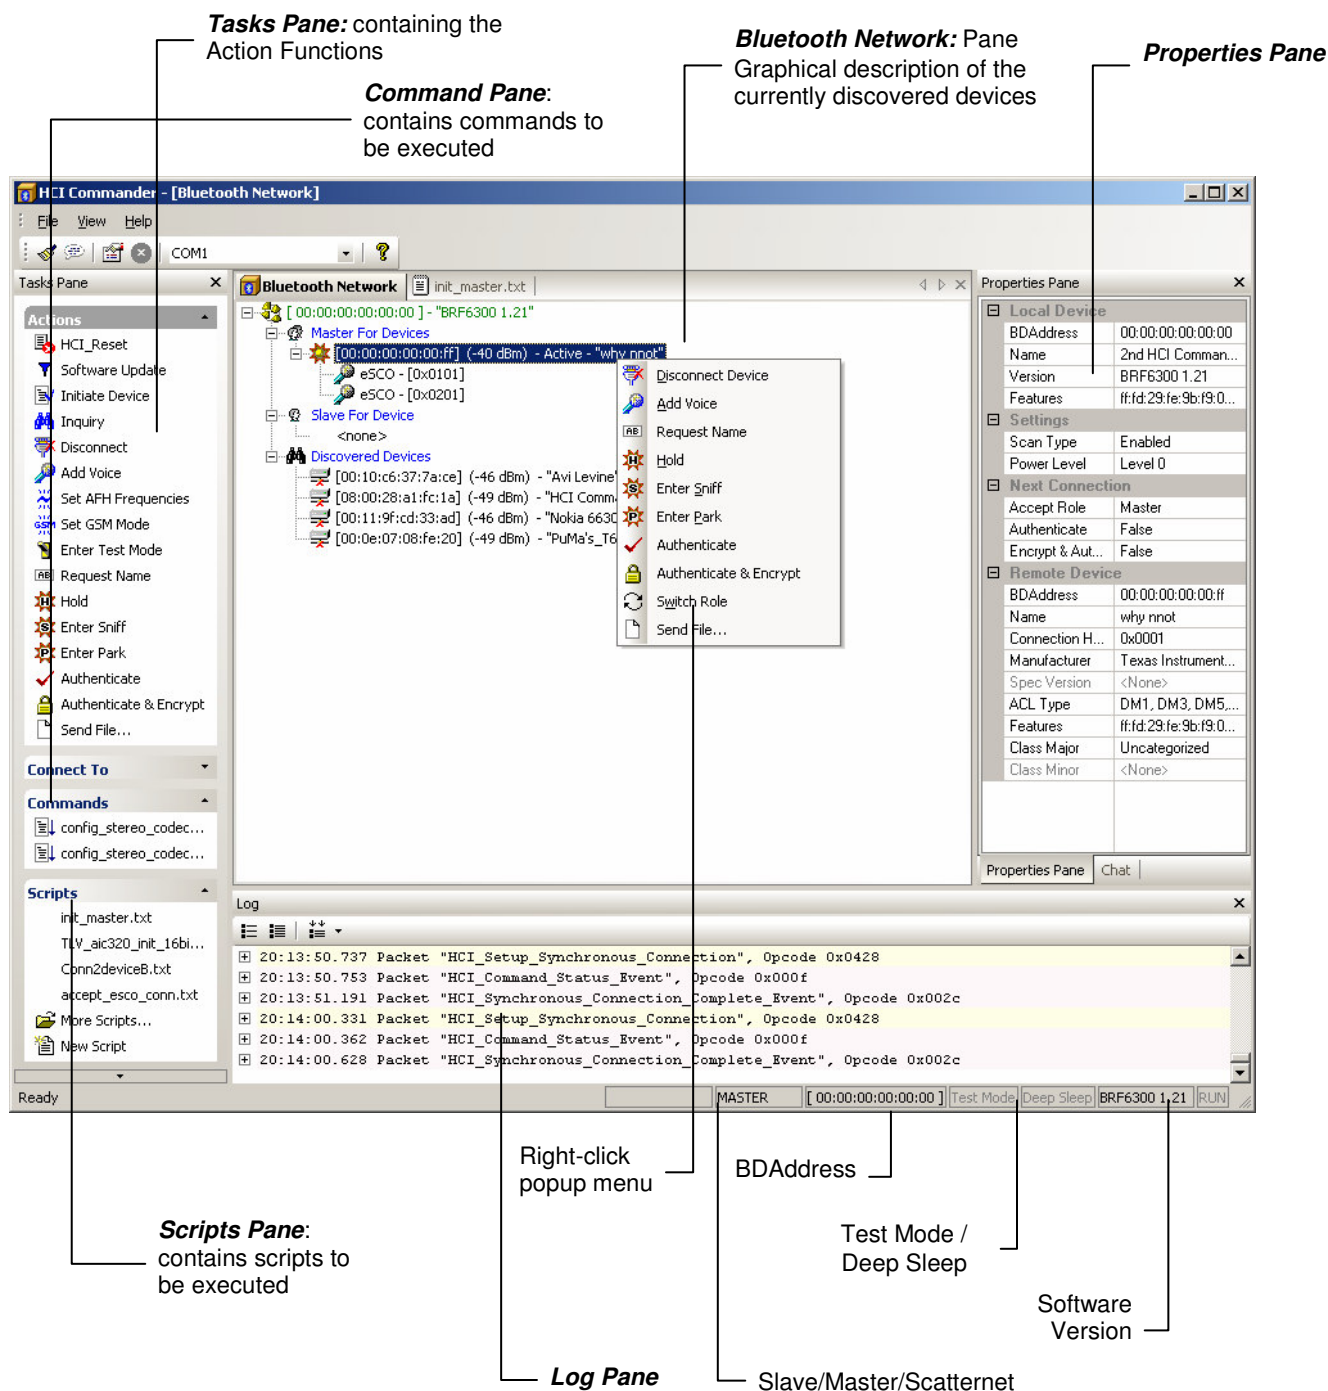

Figure 2: HCI Commander Main Window
Figure 2: HCI Commander Main Window	6
1. From the Port Connection box, as shown in Figure 2 above, Choose Setup Existing Connection. The **Port Connection** configuration window is displayed.